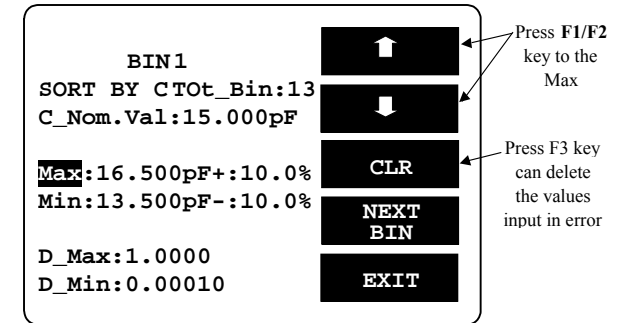

Figure 8-17
- Press **↓** key. Please refer to Figure 8-17 below.